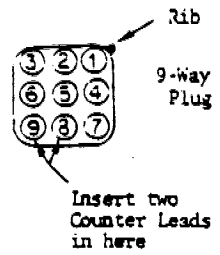

Fig. 3
7. The open holes that are used in the 9-way plug/cap are position #9 diagonally across from rib projection. See Fig. 3.